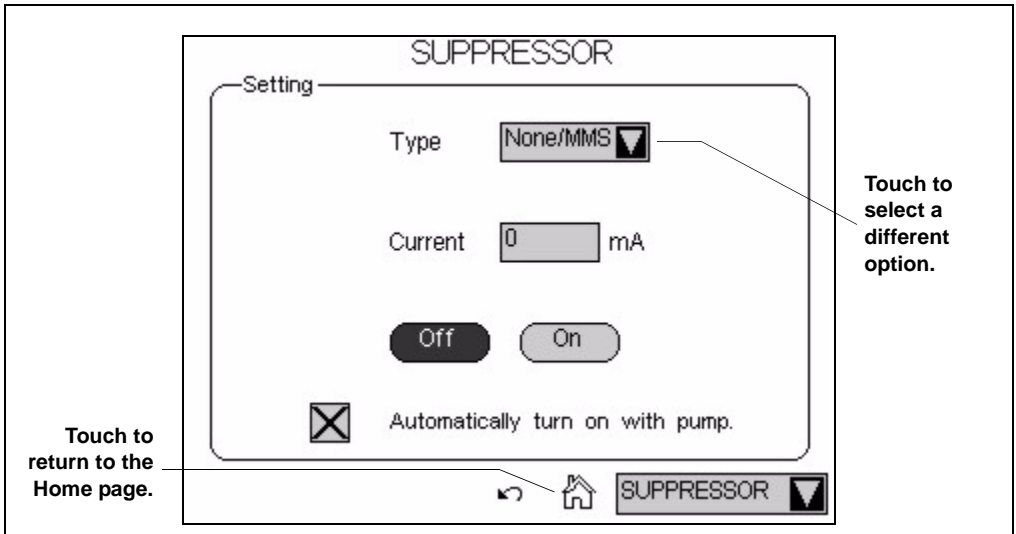

Figure 2-5. Suppressor Page
**SUPPRESSOR** page (see Figure 2-5). See Appendix C for details about each touch screen page.